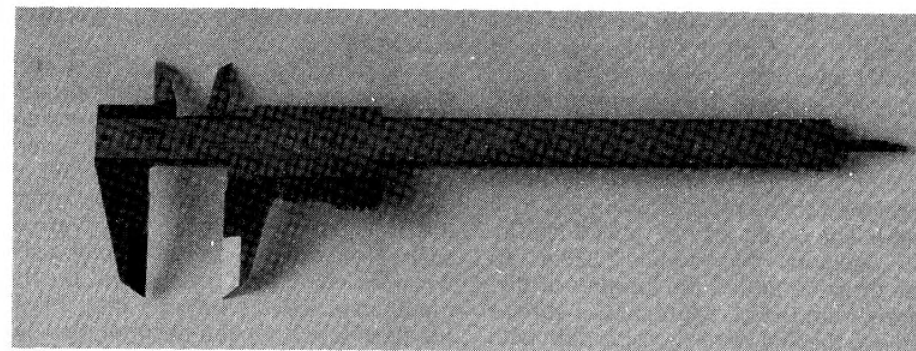

Fig. 8.14 Vernier caliper.
**THE VERNIER CALIPER,** Fig. 8.14, is used for measuring work where the micrometer cannot be used, or for work outside a micrometer's capacity. Most verniers can measure inside, outside and depth dimensions. It consists of a beam which has a fixed jaw at one end and also a sliding jaw. The beam is graduated with both Imperial and metric scales.